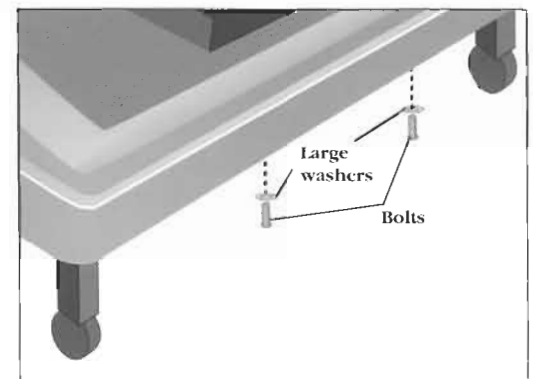

Figure 17
9. Insert the bolts into each of the holes on the front underside of the treadmill base (Figure 17). The washers should be between the shroud and the head ends of the bolts.